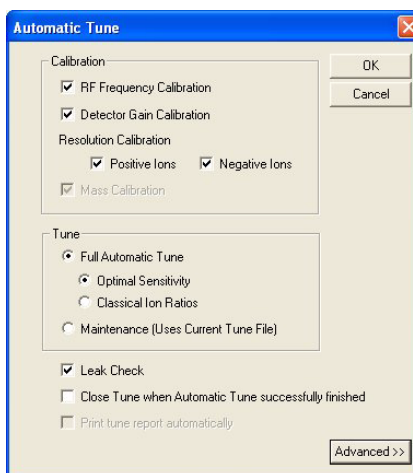

Figure 1-27 Automatic Tune - Full
- b. Check the tests indicated in Figure 1-27 Automatic Tune - Full and select **OK**.